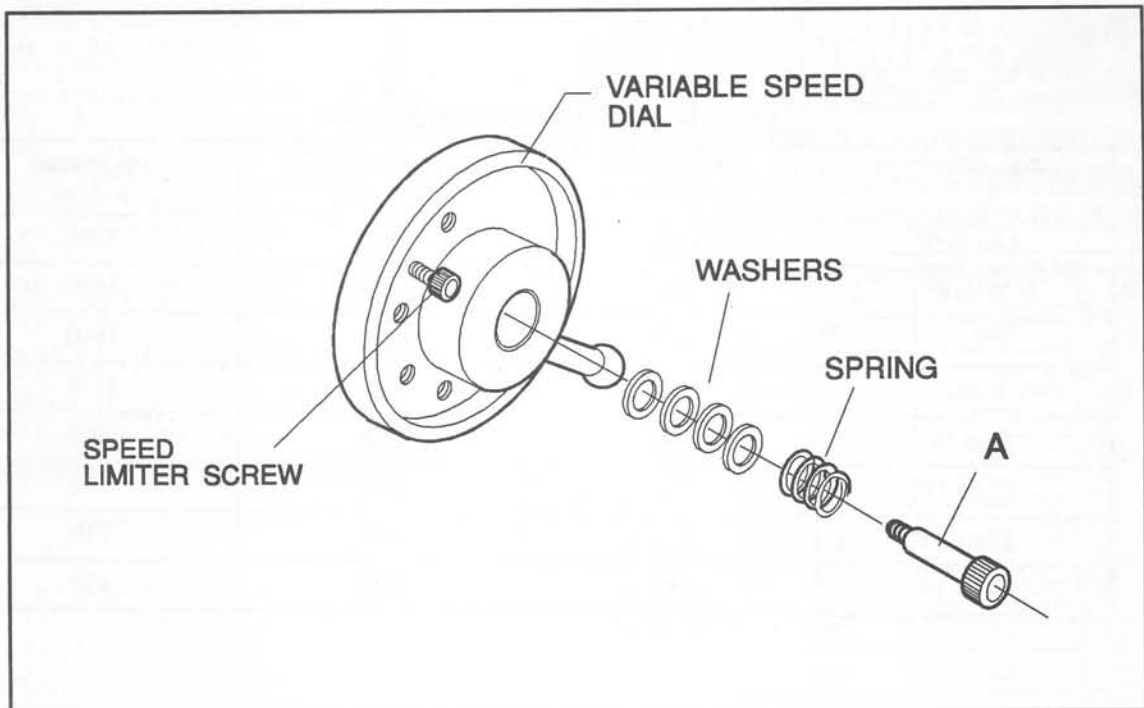
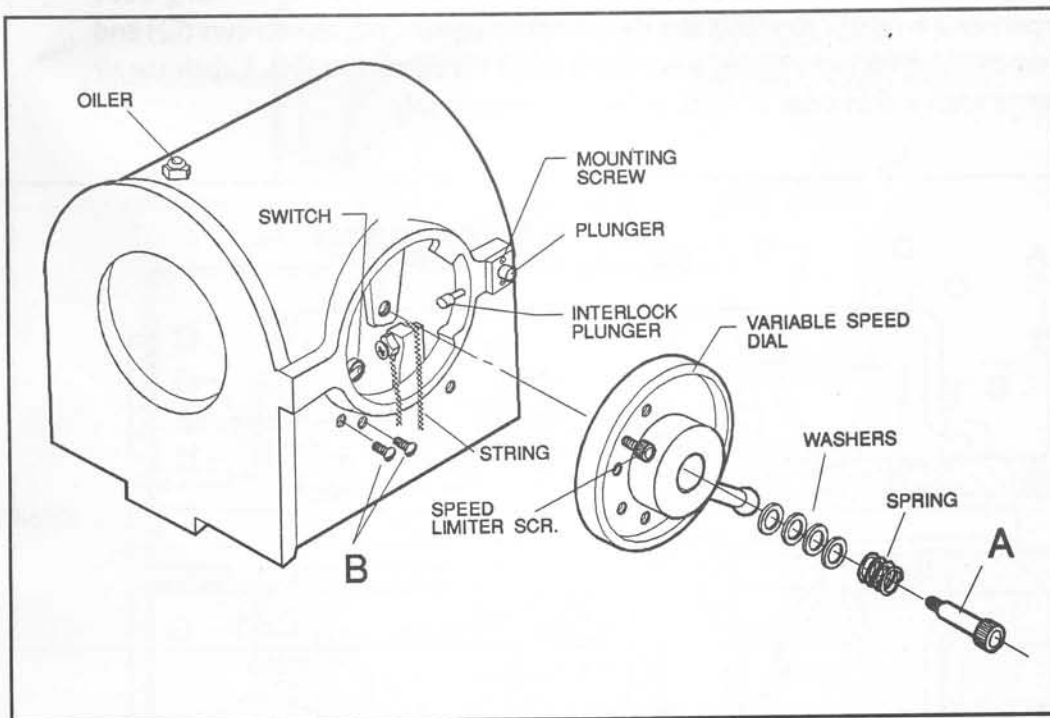

FIG. 1
FIG. 2
The motor switch is mounted inside the headstock and is operated through a switch arm and a cam section of the variable speed dial on the front of the lathe. To service or replace the switch, remove the variable speed dial by removing the screw (A), Fig 1 in its center. Remove the two screws (B), Fig. 2
To remove the speed dial, unscrew and remove the central bolt (A), Fig. 2. To replace the speed dial, loop a piece of string over the switch arm as shown and pull on the string to hold down the switch arm. Holding the dial at the 1000 RPM speed position, install the dial in the headstock cavity being careful not to catch the switch arm and compressing the interlocking pin spring. With the cam in position, remove the string, screw in and lock down tight the central bolt with its spring and washers.